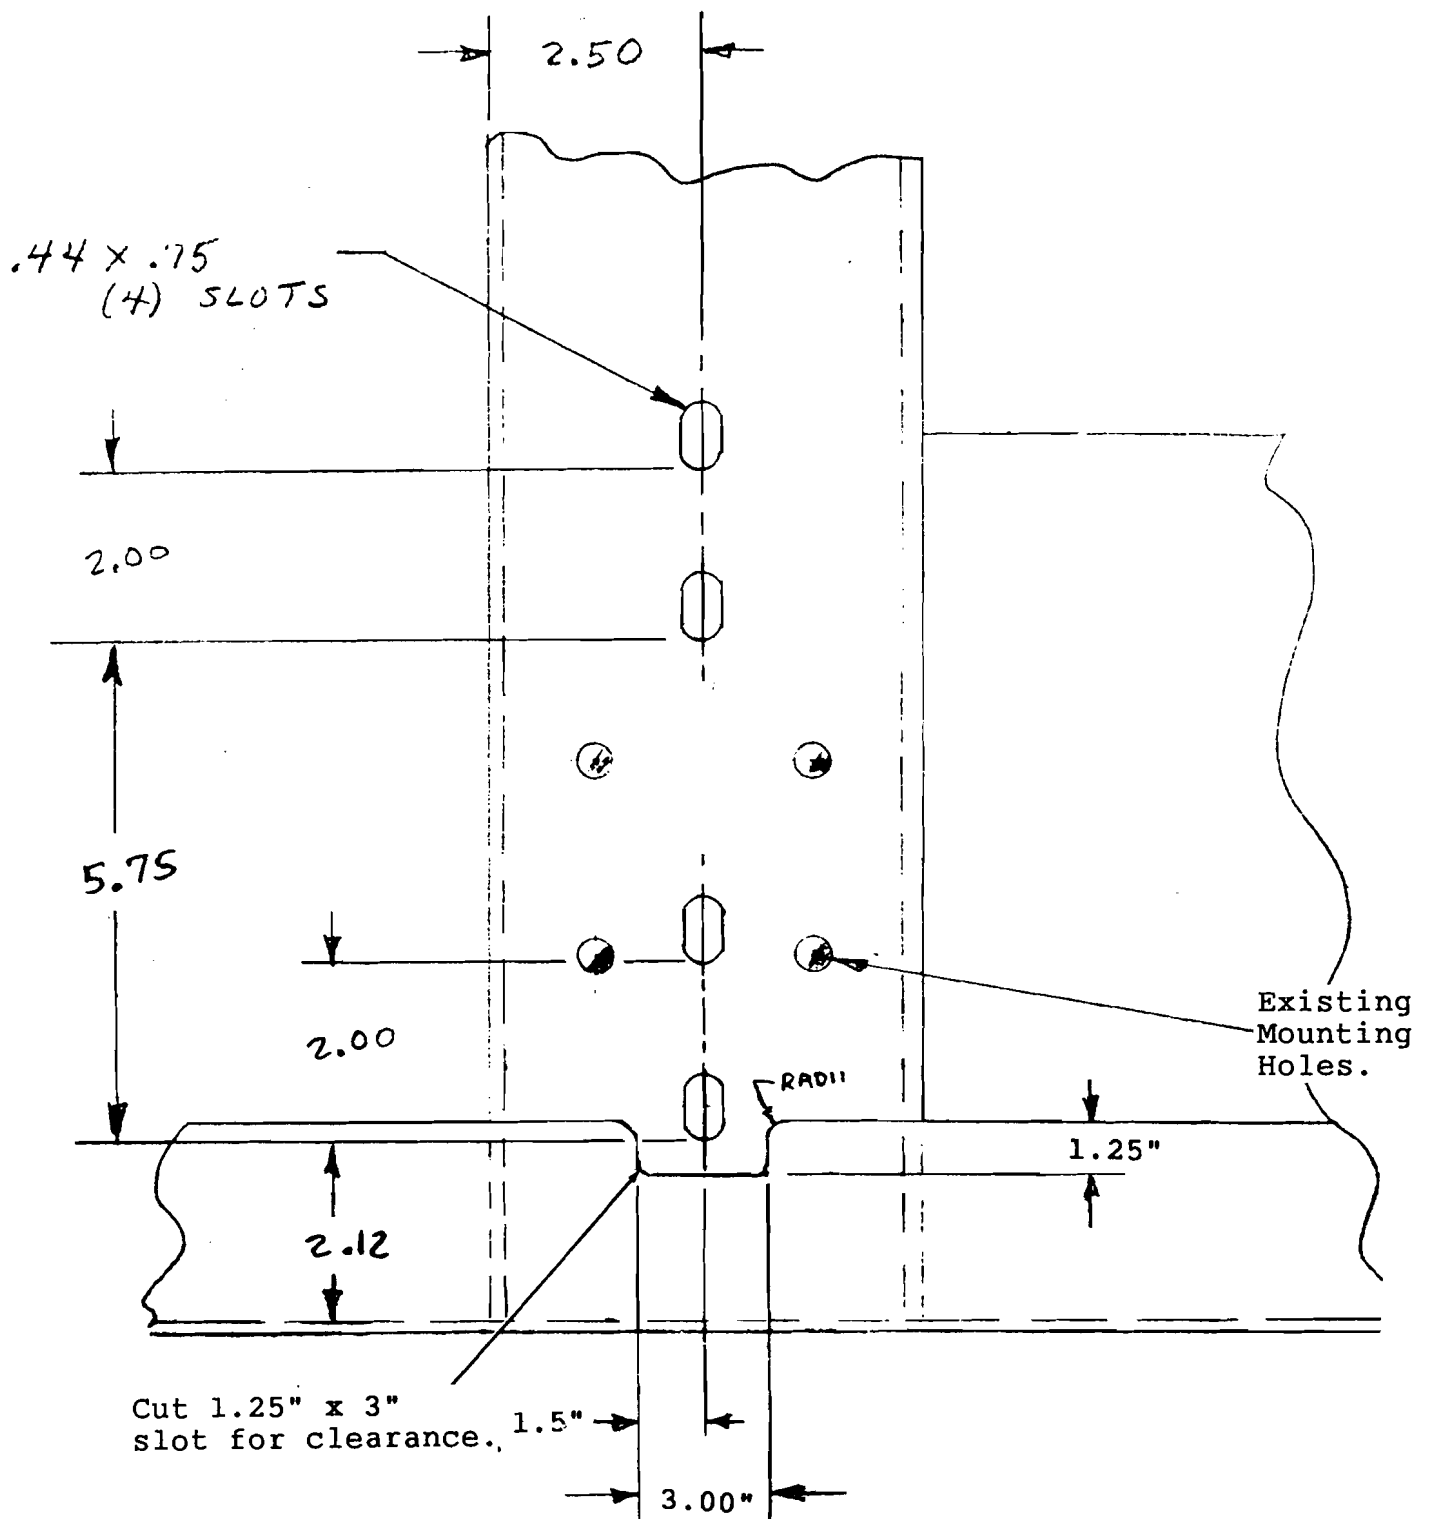

Fig. 3 - SLOTS FOR TENNANT MODEL 550E MOUNTING BRACKETS 25639
NOTE: For Electric machines, cut a 5/8" x 1-1/2" slot out of machine frame, then drill (4) new slots. See Fig. 3.
2. Mount the Angle Brackets so the ends with the (2) holes point into each other. Use --